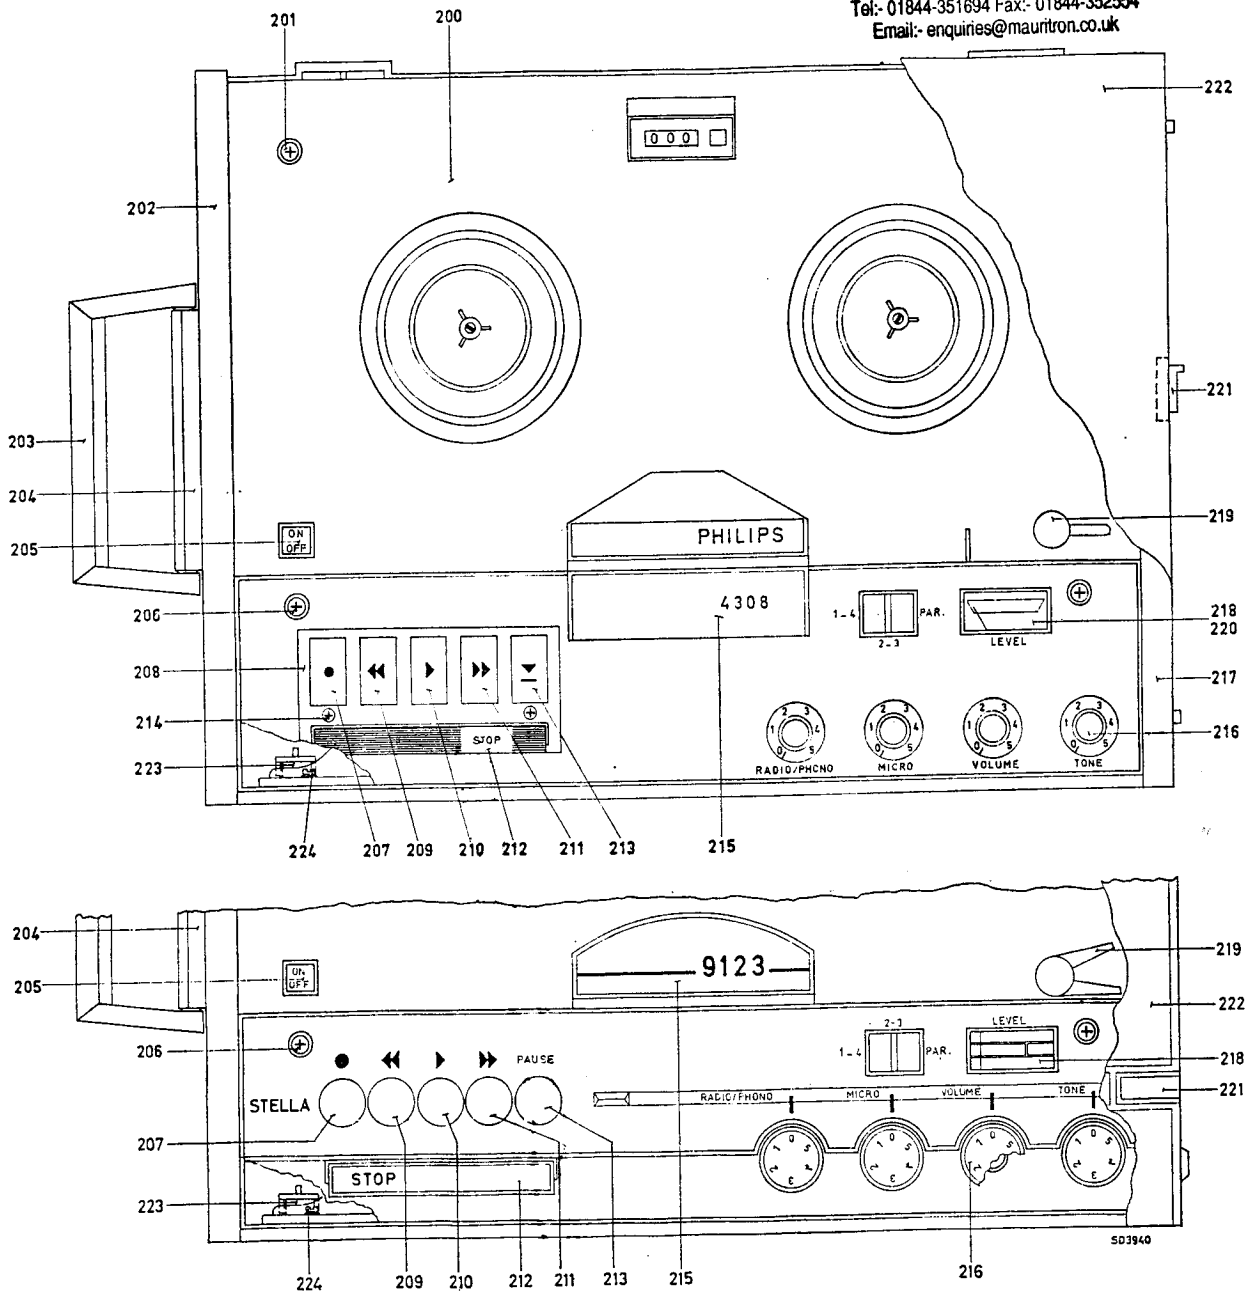

Fig. 2 Top View
1. Case removal (See Fig. 2)
3. Keys 207, 209, 210, 211 (See Figs. 2, and 21 in pocket)
4. Pause key 213 (See Figs. 2, and 21 in pocket)
5. All keys (207, 209, 210, 211; See Figs. 2, and 21 in pocket)